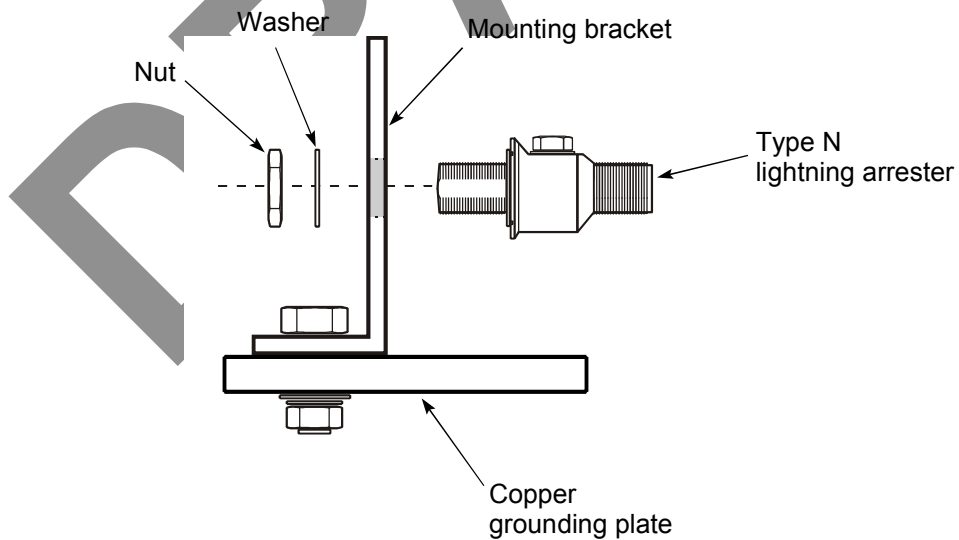

Figure 25 – Connecting the lightning arrester to the adapter bracket
2. Install each lightning arrester in a mounting bracket, as shown in *Figure 25*.